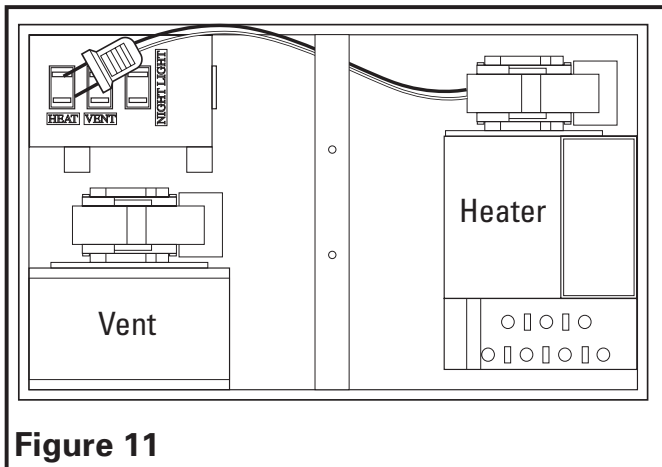
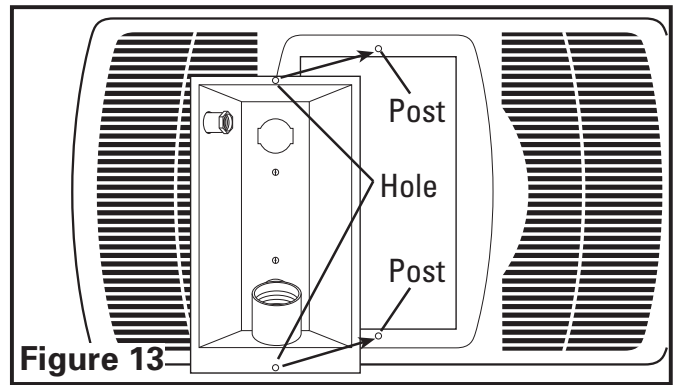

Figure 11
Figure 13
1. Insert the plug from the heating unit into the receptacle marked "HEAT", and the plug from the fan into the receptacle marked "VENT"(Figure 11).
3. Install light reflector into grill by lining up the posts on grill with the holes in light reflector (Figure 13). Raise light reflector and grill up to housing and insert plug from light into receptacle marked "LIGHT" (located on the side of the wire compartment) and insert plug from night light into receptacle marked "NIGHT LIGHT" (Figure 11).